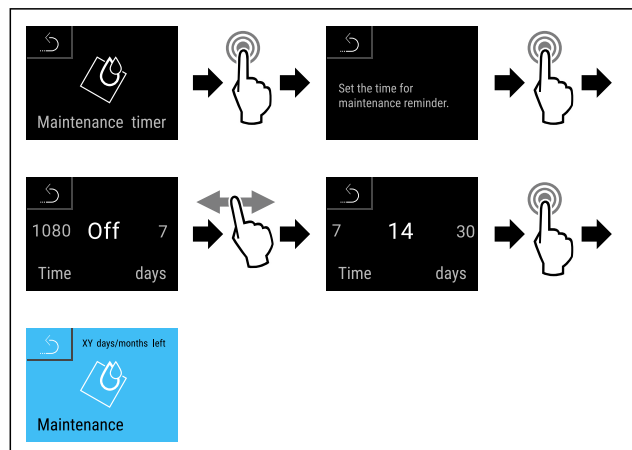

Fig. 103
- ▶ Complete steps (see Fig. 103).